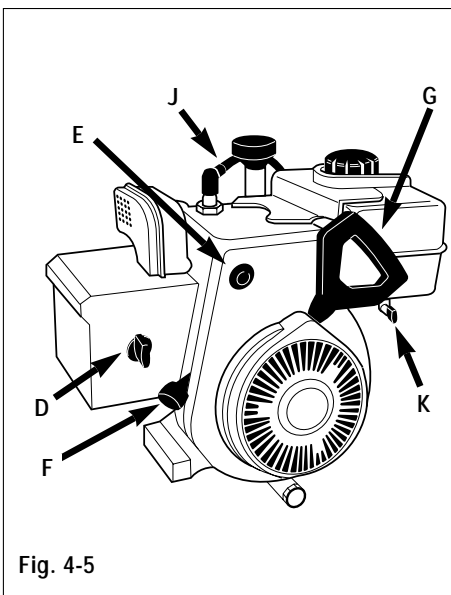

Fig. 4-5
4. Turn choke knob "N" (D, Fig. 4-5) clockwise to FULL CHOKE (warm engines require little or no choking). Push the primer button (E, Fig. 4-5) two or three times (cover hole in center of bulb when pushing). If the temperature is below 15° F (-9° C), push the button 4 or 5 times.
5. Move the throttle lever (F) to FAST .
6. Before using the recoil starter (G, Fig. 4-5), make sure there are no obstacles behind you.
8. Turn the choke knob "N" (D, Fig. 4-5) counterclockwise out of the full-choke position. Turn the choke off as the engine warms up.
9. Move the choke knob "N" (D, Fig. 4-5) out of the full-choke position. Turn the choke off as the engine warms up.
2. Move the throttle lever (F, Fig. 4-5) into the "  " position. Allow the engine to idle for several minutes to melt any snow on the engine.
4. Disconnect the spark plug wire (J, Fig. 4-5) from the spark plug.
- b. Move the throttle lever (F, Fig. 4-5) into the "  " position.
- c. Move the choke knob "N" (D, Fig. 4-5) into the full choke position.
- d. Rotate the fuel shut-off valve (K, Fig. 4-5) to the "OFF" position.